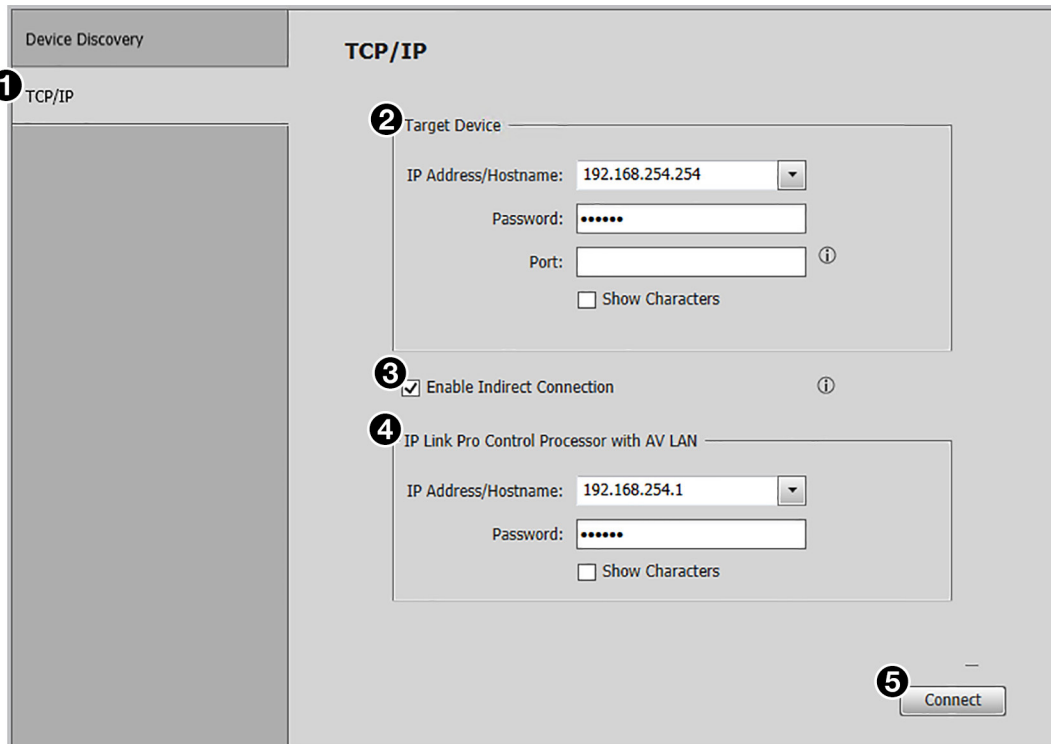

Figure 20. TCP/IP Panel
The TCP/IP panel connects PCS to a specific device through Ethernet. To access this panel, click the **TCP/IP** tab to the left of the Device Discovery panel (see figure 20, ①).
1. In the **IP Address/Hostname** field of the Target Device panel (see figure 20, ② on the previous page), enter the IP address of the desired device.